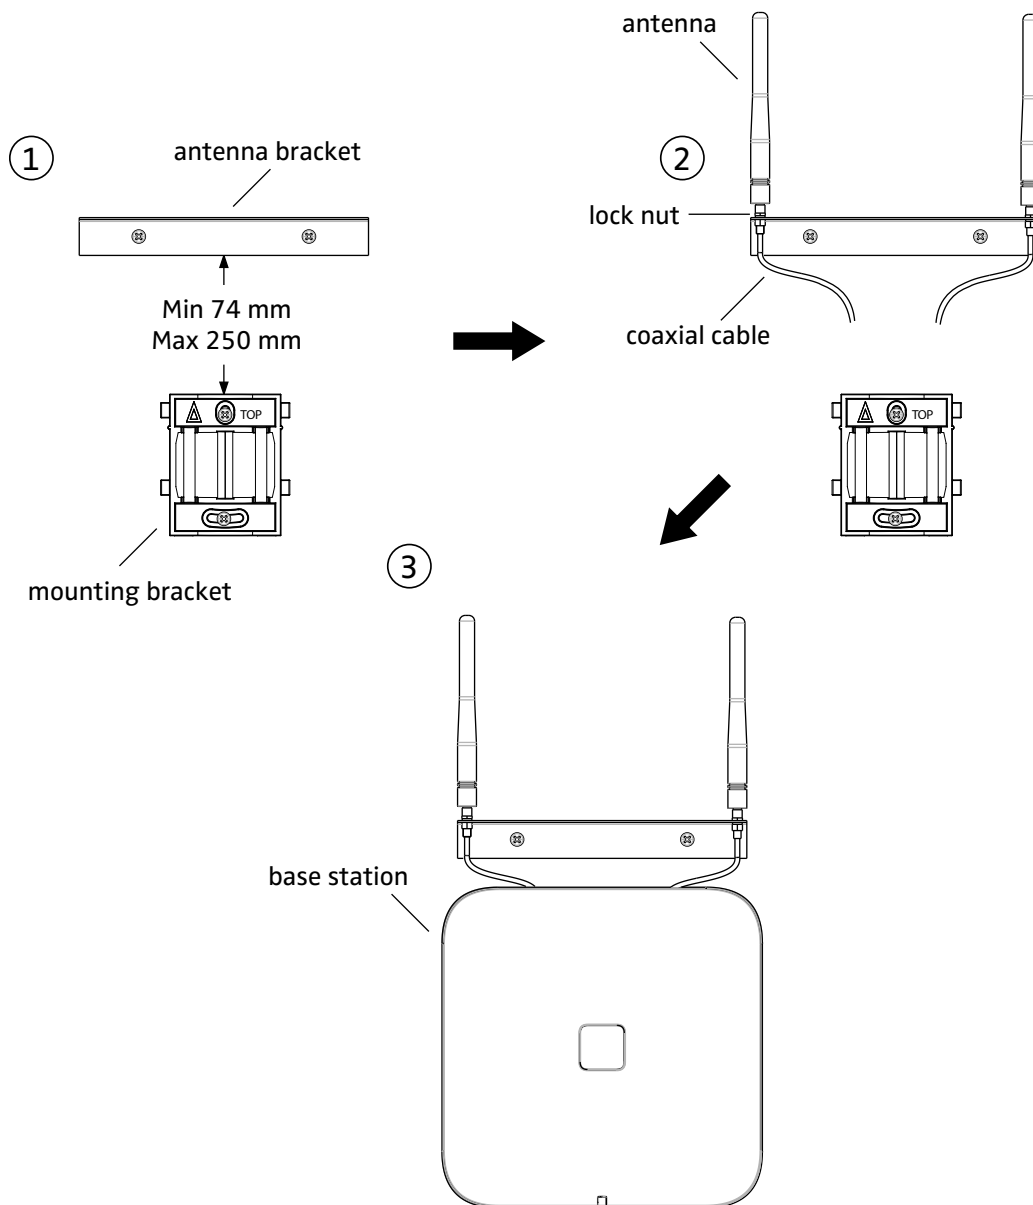

Figure 10. Connect external antennas.
- 1 Position the included antenna bracket above the mounting bracket with a minimum distance of 74 mm (250 mm maximum) and mark the two holes for the antenna bracket, see figure 10 on page 21 (1).
- 4 Mount the two included coaxial cables on the antenna bracket figure 10 on page 21 (2). Fasten the coaxial cables with the lock nuts which are found on the coaxial cable antenna connectors.
- 5 Mount the antennas on the antenna connectors (2).
- 7 Mount the base station (3), see 3.2.9 Mount the Base Station on page 23.